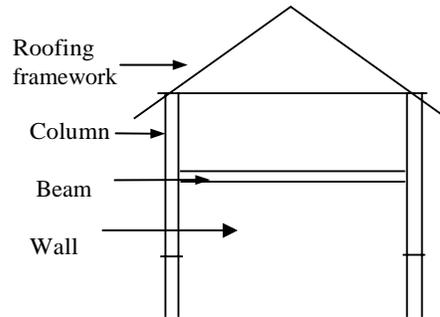

Figure 1.5 : Building Structure
*Example* : Building – combination of several and various structural members such as column, beams, slabs, wall and frameworks (refer figure 1.5)